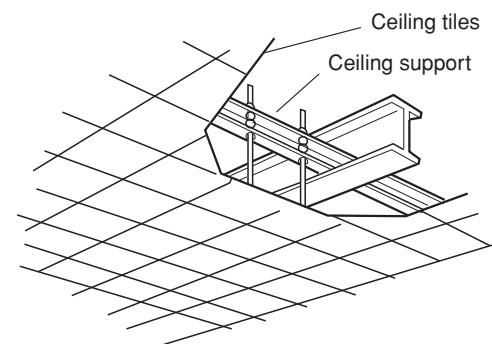

Fig. 3-5
- Use existing ceiling supports or construct a suitable support as shown in Fig. 3-5.